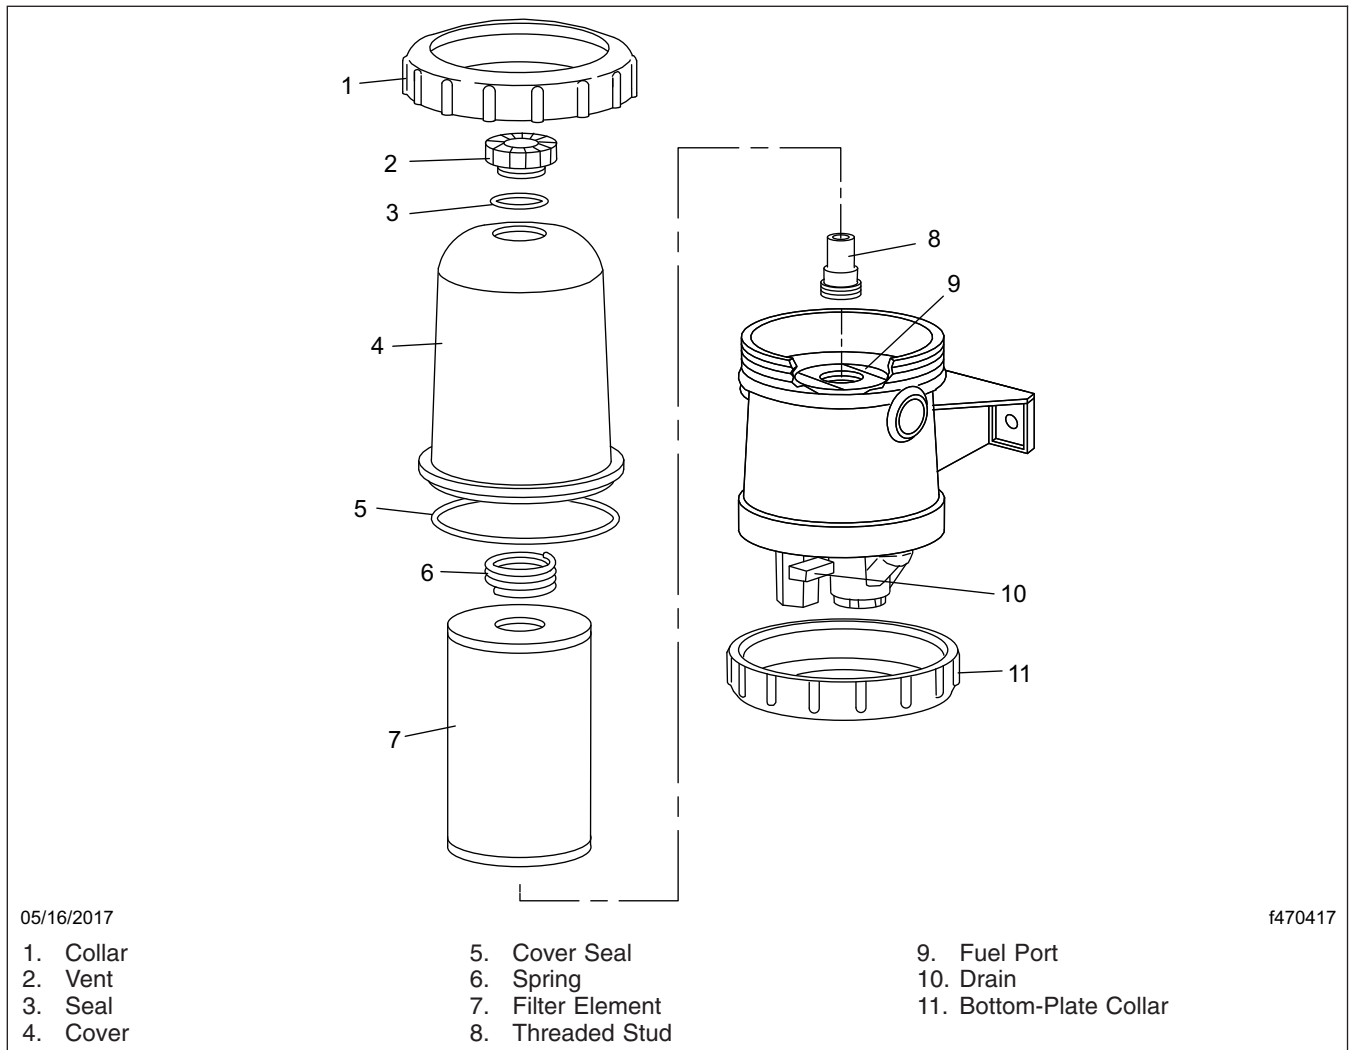

Fig. 24.2, Davco Model 382 Fuel/Water Separator
3. Drain the fuel until it is below the level of the collar. See Fig. 24.2 for the model 382 fuel/water separator.